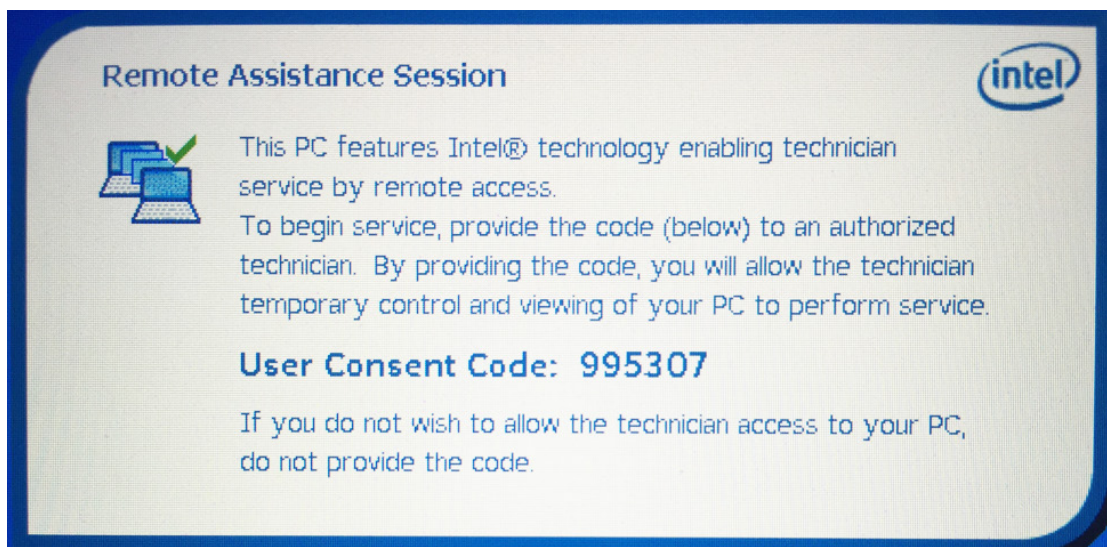

Figure 1: Client Control Mode requires user consent for redirection operations and changes to the boot process.
- User consent is required for all redirection operations (including KVM) and changes to the boot process. When a remote connection to the computer starts, a message shows on the computer of the user. The message contains a code (see Figure 1) that the user must give to the person who wants to connect to their computer. The remote user cannot continue the operation until this code has been provided. (Whether consent is required or not, several visual mechanisms on the user's device indicate when the device is being remotely accessed using Intel AMT.)